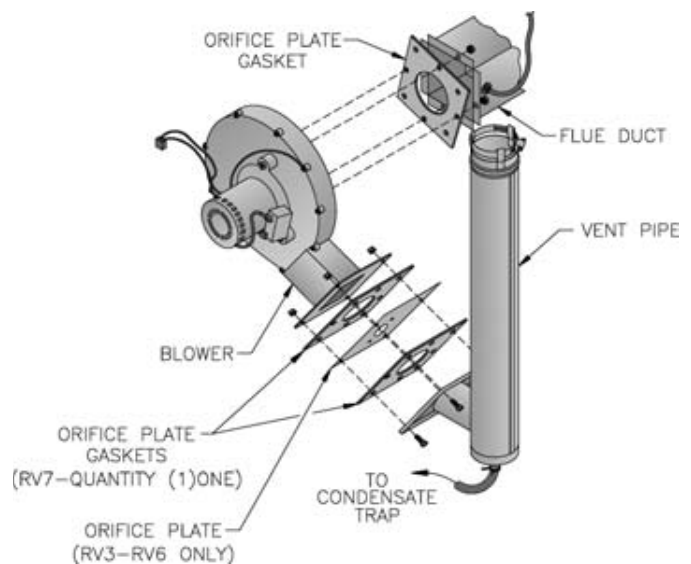

Figure 52: Blower Vent Connector Assembly
12. Connect vent system. See Figure 52.
13. Ensure orifice plate and new two (2) gaskets are in place. See Figure 52.